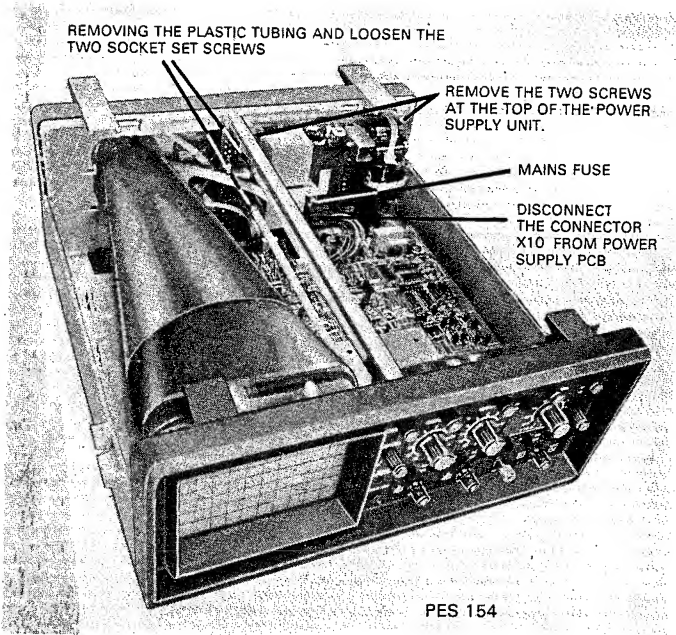

Fig. 6.1 Removing the power supply unit
Remove the plastic tubing which covers the coupling between the shaft and the potentiometer. (See fig. 6.1.)
- Remove the two screws at the top of the power supply unit holding it to the rear cover (See fig. 6.1.)
- Disconnect the connector X10 from the power supply PCB (Fig. 6.1.)